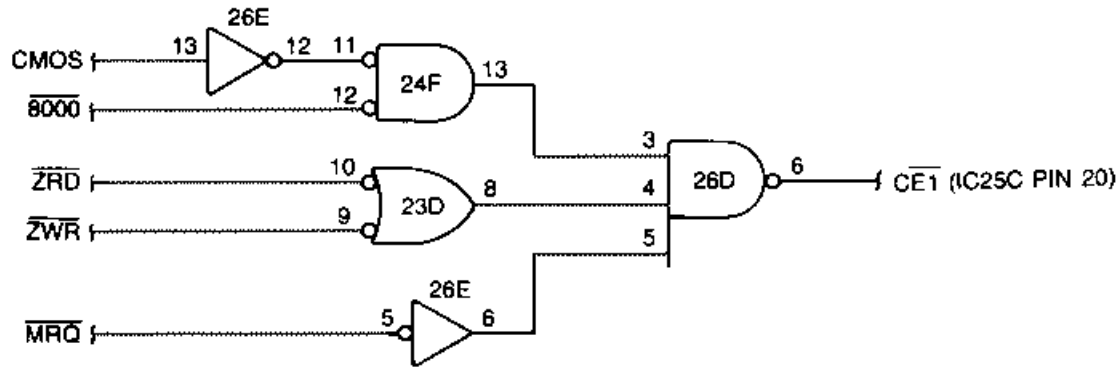

FIGURE 2-33. 449 CMOS RAM ENABLE CIRCUIT
2.3.2.4 449 CMOS RAM Enable Circuit (Figure 2-33)